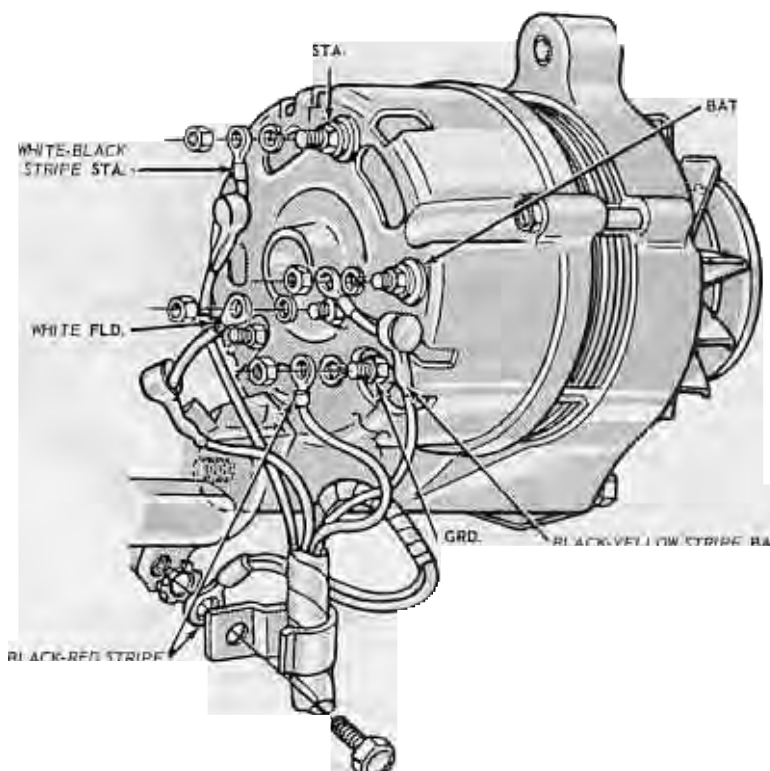

FIG. 1 Wiring Harness Connections—Typical
1. Attach the alternator wiring harness (Fig. 1). Position the alternator to the engine, and install the alternator mounting bolt finger-tight.